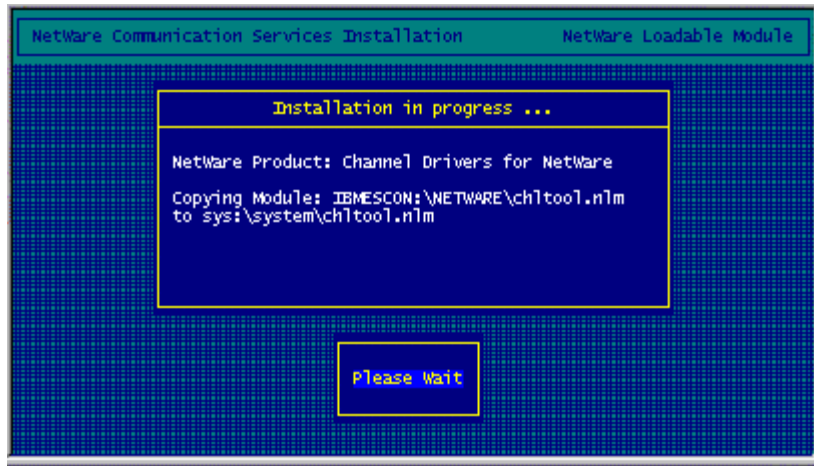

Figure 3-25. Installation in Progress
7. The installation program will then copy driver and support files into the appropriate sub-directories of the SYS: volume. A status window will show progress (Figure 3-25); periodically updating with names of files being copied.